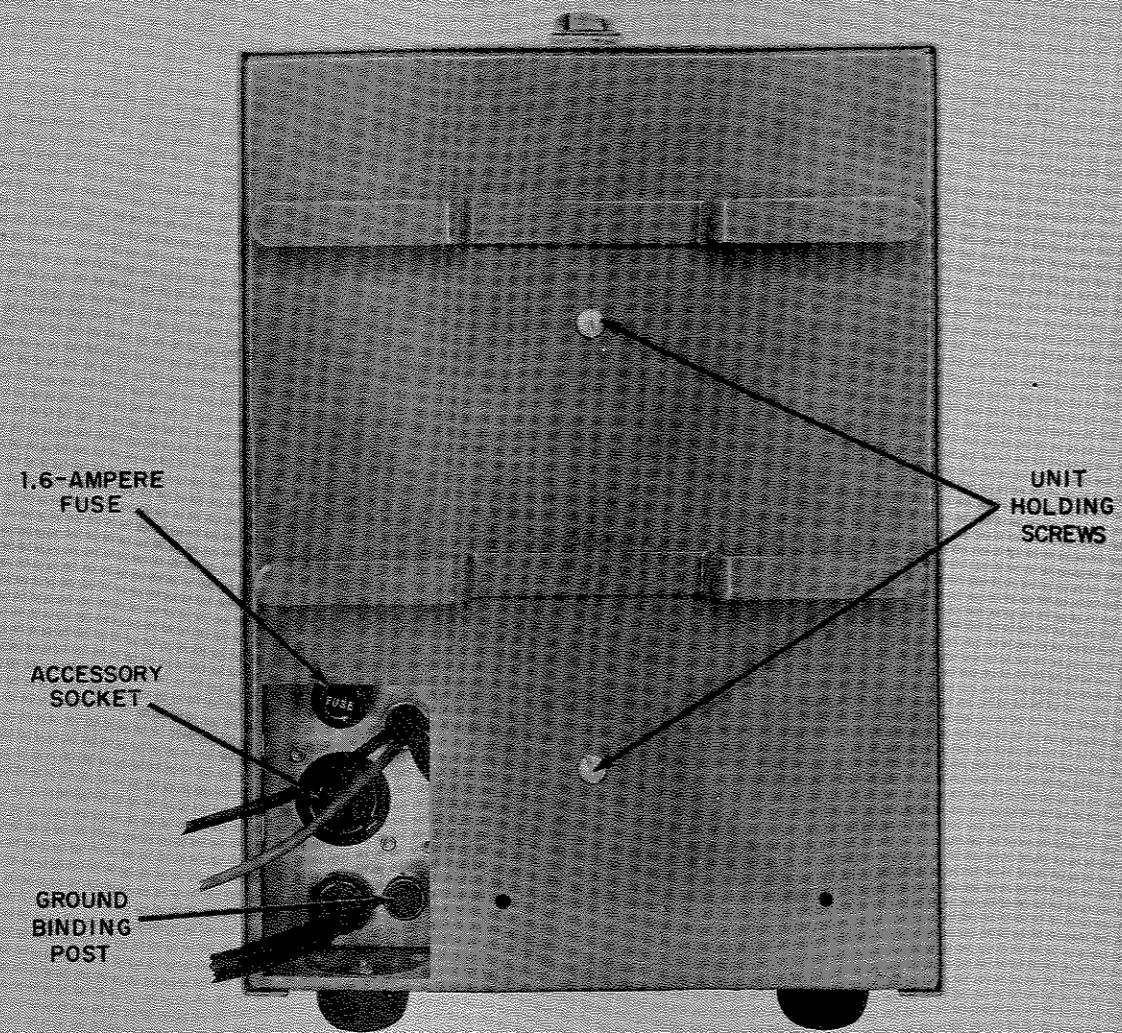

FIGURE 10. REAR VIEW SHOWING SCREWS TO BE REMOVED TO TAKE UNIT FROM CABINET
To reach the two electrical adjustments, the cabinet cover must be removed. To do so, remove the two screws shown in Figure 10, and pull out the unit.
2. Take off the cabinet by removing the two screws shown in Figure 10 and pulling the unit out.